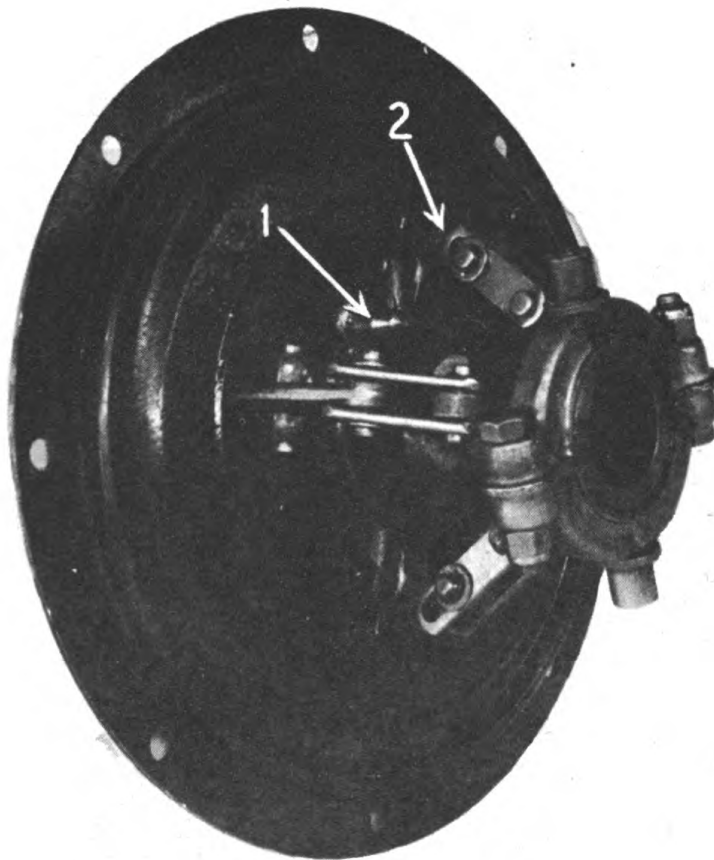

FIG. 33 - MASTER CLUTCH ADJUSTMENT.
If clutch does not pull, heats, or operating lever jumps out of engagement, the clutch should be adjusted. To adjust, remove hand hole plate on clutch housing and turn clutch until adjusting lock pin (1) Fig. 33 can be reached. Pull out on adjusting lock pin and turn adjusting yoke (2) to right or clockwise, until adjusting lock pin recedes itself in the next notch provided. The clutch is in proper adjustment when the clutch lever requires a distinct pressure to engage. A new clutch may require several adjustments until the friction discs are worn in. One or two notches on the adjusting yoke are usually sufficient to adjust the clutch properly.